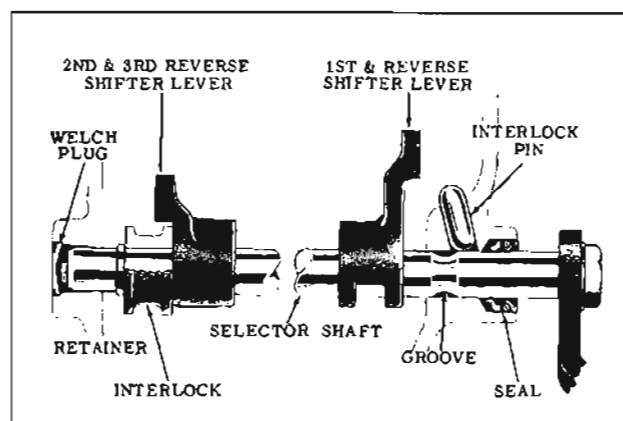

Fig. 7-30 Selector Shaft and Related Parts
7. Install the selector shaft and shifter levers as follows: (Fig. 7-30)
8. Install the selector shaft interlock pin in the case. Move selector shaft until the interlock pin engages groove in selector shaft. (Fig. 7-30)